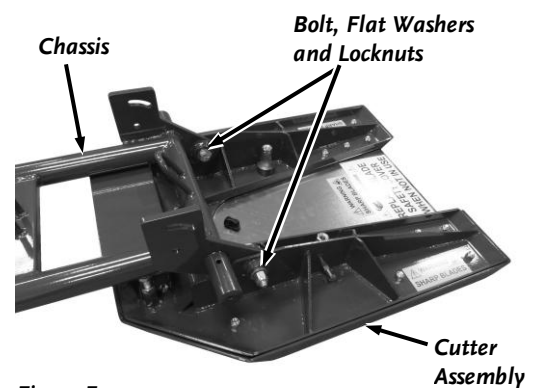

Figure 7
1. Attach the Cutting Assembly to the Chassis (Figure 7) with two 1/2-20 Bolts, four 1/2" Flat Washers and two 1/2-20 Locknuts using two 3/4" Wrenches. Do not tighten the hardware completely to allow the Cutter Assembly to rotate independently of the Chassis.